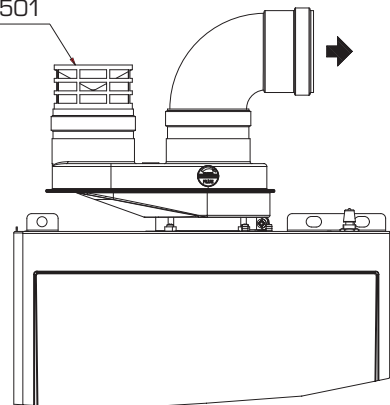

Fig. 10
2.9 FORCED EXHAUST TYPE B22P-B52P (fig. 10)
In “25-30 BF” models this type of exhaust pipe is installed using the special kit, code 8093020. For kit assembly instructions, refer to point 2.8.1. Protect the intake with the optional accessory, code 8089501 (fig. 10). The air/combustion product divider code 8093020 is supplied with aspiration diaphragm that must be engaged, depending on the maximum head loss allowed, as indicated in fig. 8/a.